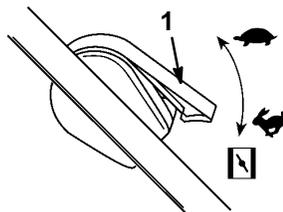

Figure 8
1. Move the throttle lever to the  position (Fig. 8).
1. Move throttle lever to the  position (Fig. 8).